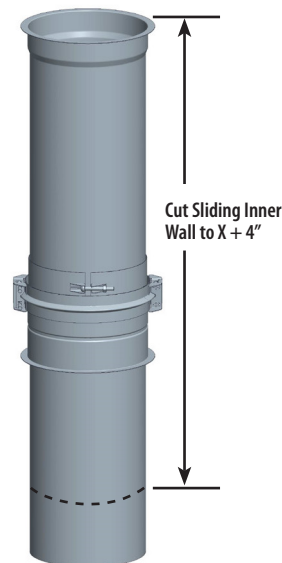

Figure 35a - Step 2 -
Step 2 - Cut the inner wall at the dimension X found at the first Step plus 4". See Figure 35a.